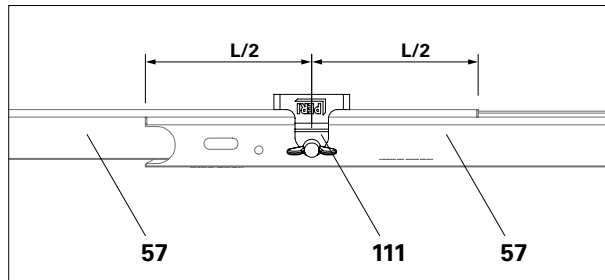

Fig. B7.06
With the Toe Board Compensation UPY-L (111) and two Toe Boards UPY (57), it is possible to fit a Toe Board that is continuously adjustable in terms of its length. (Fig. B7.06)